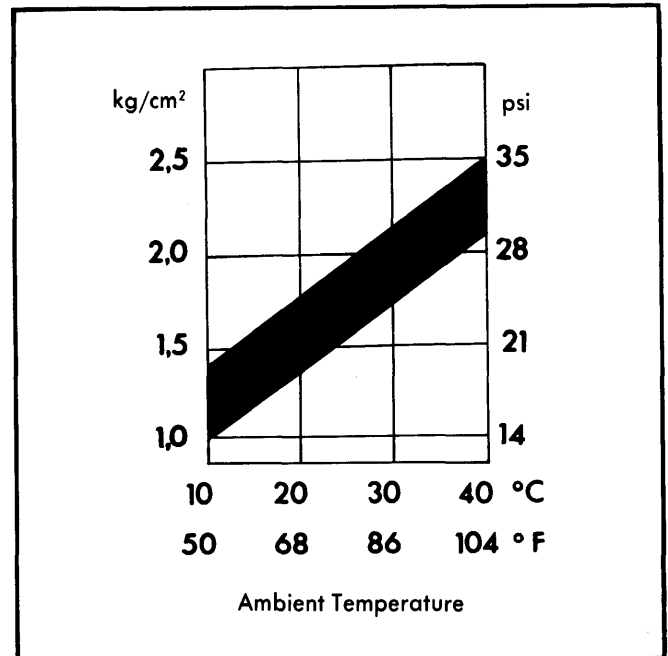

Fig. 4 Graph Showing Cold Control Pressure at Various Temperatures
5) Note control pressure and refer to graph in Fig. 4. At normal room temperature, about 68° F (20° C), pressure should read between 18-24 psi (1.3-1.7 kg/cm²).